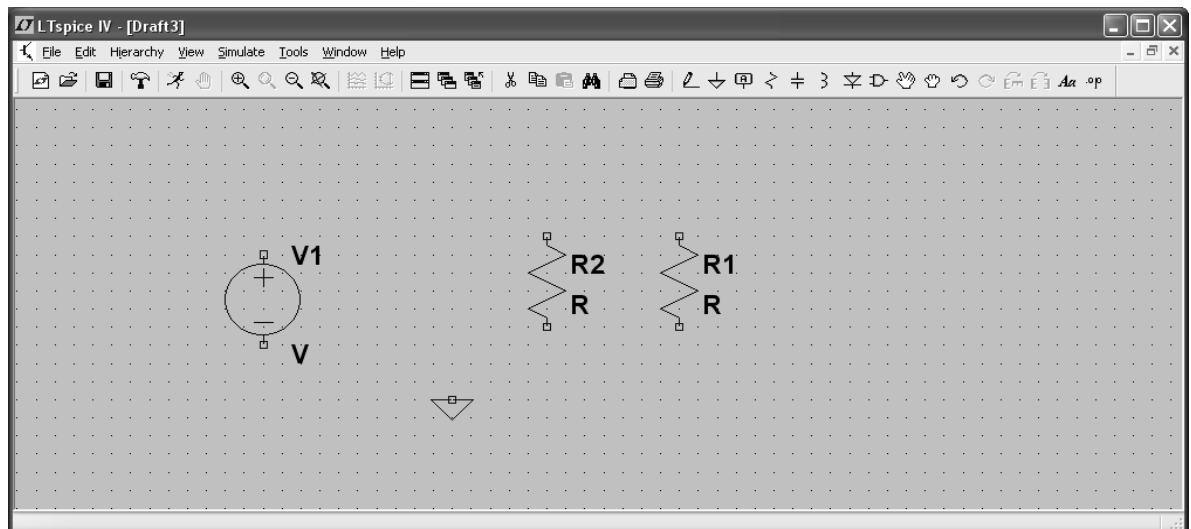

Fig. 2 LTspice screen after step 3
3. Get the components you will need. For resistors, capacitors, inductors and diodes you will see shortcuts on the top toolbar ( , ,  and  respectively). For other components (as well as the aforementioned ones) click . A new window will appear. This gives access to a huge library of pre-defined components. For example, if you use the scrollbar to scroll across you will come to **res**. Click on this and a box will appear with the circuit symbol for a resistor (old-fashioned one!) and some text to confirm that it is indeed a resistor. If you now click on OK the box disappears and you will be able to place resistors on the main window by clicking the left-hand mouse button. When you have enough resistors click the right-hand mouse button to halt the procedure. You will also need a **voltage** source — follow the same procedure as you did for resistors except click on **voltage** in the component list. Finally you will need a ground for your circuit. There is a shortcut for this on the top toolbar, click on  and then place your ground on the main window. At this stage don't worry about where exactly you have put all your components. If everything has gone to plan then your main window should look something like Fig. 2 below.